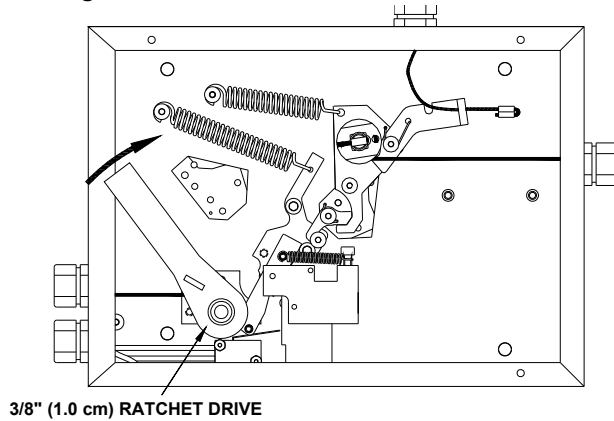

Figure 4-66.
5. Using a ratchet (3/8" (1.0 cm) drive) or wrench [3/4" (1.9 cm)], rotate the Gas Valve Ratchet clockwise until all slack has been removed from the cable and the Mechanical Gas Valve stem begins to move. See **Figure 4-66**.